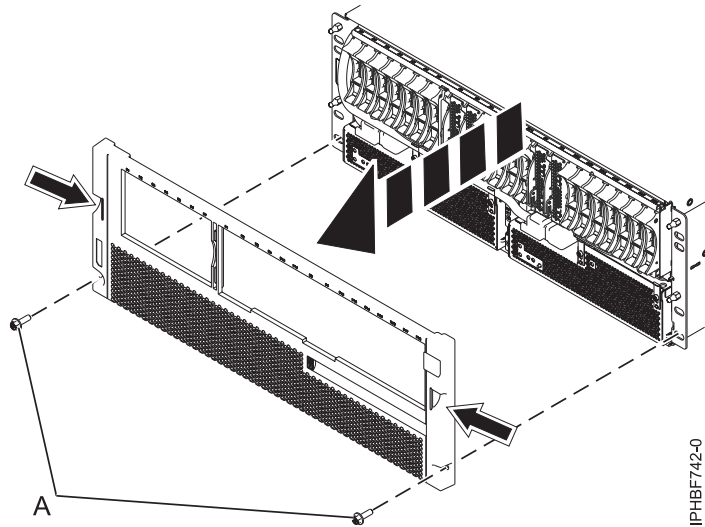

Figure 66. Removing the service information holder and bezel
- a. Remove the two M5 securing screws (A) as shown in Figure 66 on page 63.